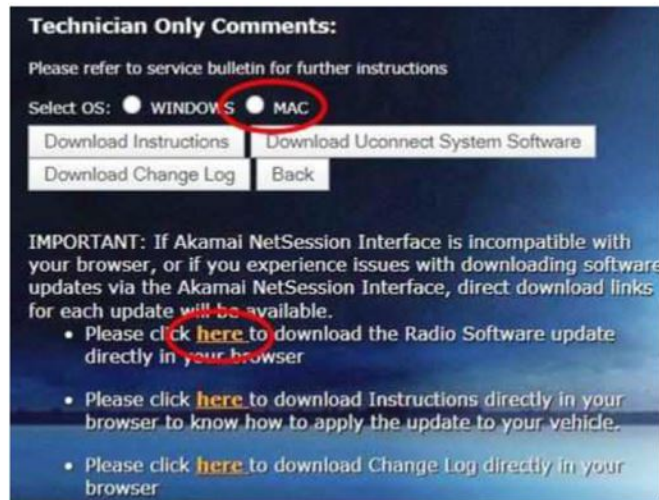

Fig. 3
11. Download the software update file to your local PC's desktop. Make sure to select the "MAC" radial button for all downloads Fig. 3.